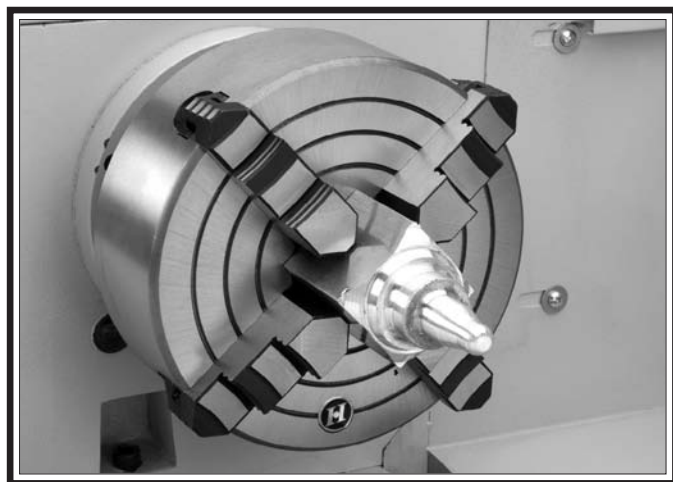

Figure 38. Example photo of non-cylindrical workpiece correctly mounted on the 4-jaw chuck.
- If the workpiece is not correctly centered, make fine adjustments by slightly loosening one jaw and tightening the opposing jaw until the workpiece is correctly positioned (see **Figure 38** for an example).